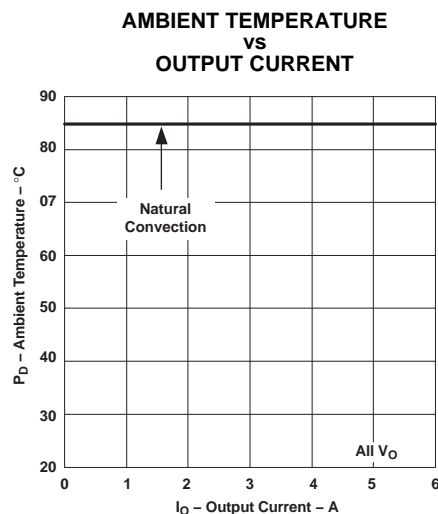

Figure 8.
- (2) The temperature derating curves represent the conditions at which internal components are at or below the manufacturer's maximum operating temperatures. Derating limits apply to modules soldered directly to a 100 mm x 100 mm double-sided PCB with 2 oz. copper. Applies to Figure 8.